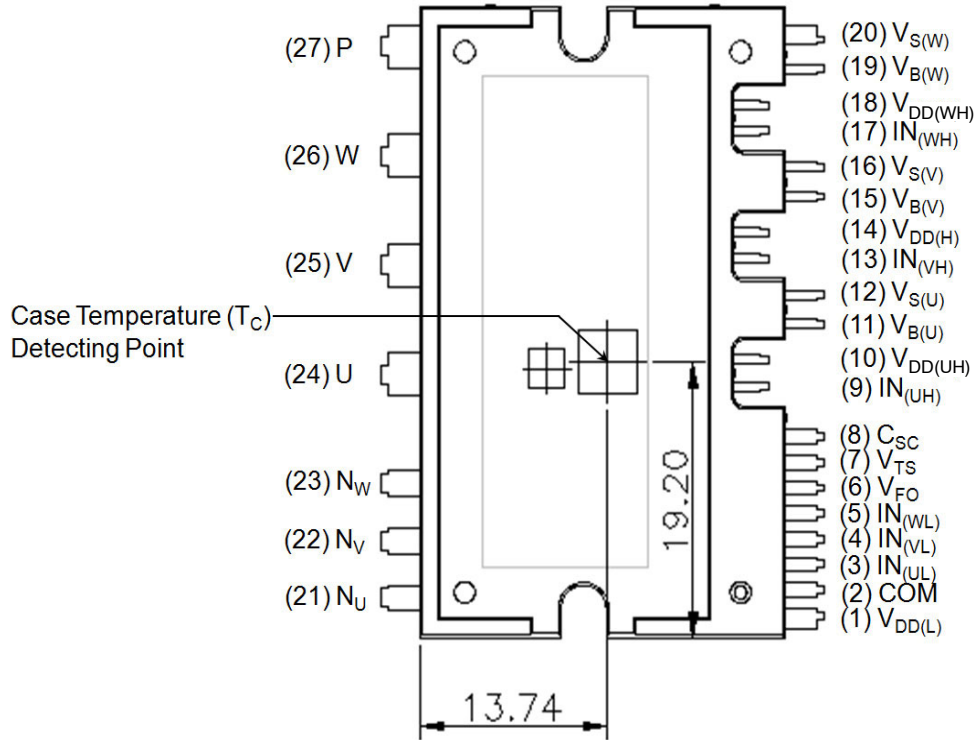

Figure 1. Top View
- For the measurement point of case temperature ( $T_C$ ), please refer to Figure 1. DBC discoloration and Picker Circle Printing allowed, please refer to application note AN-9190 (Impact of DBC Oxidation on SPM® Module Performance).